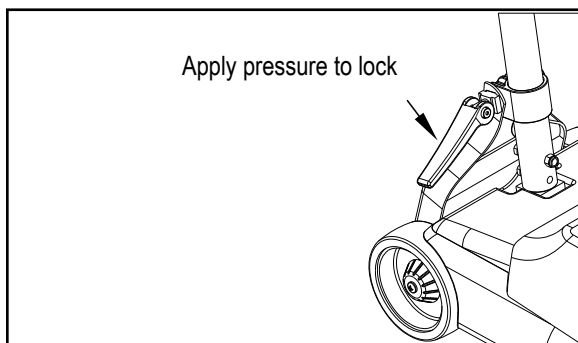

Figure 9
2. Lock the handle in the best position for operation. See figure 9.